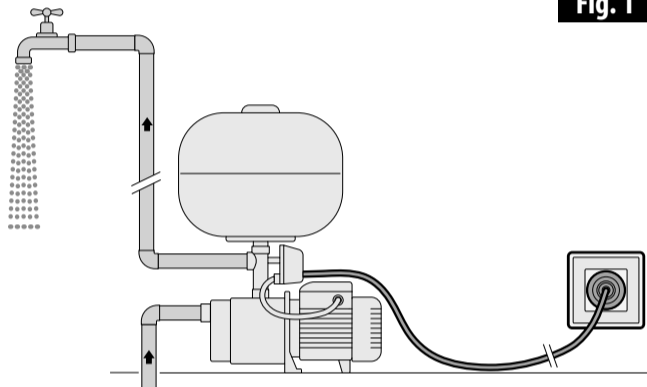

Fig. 1
- Run the pump with the supply point open (Fig.1).